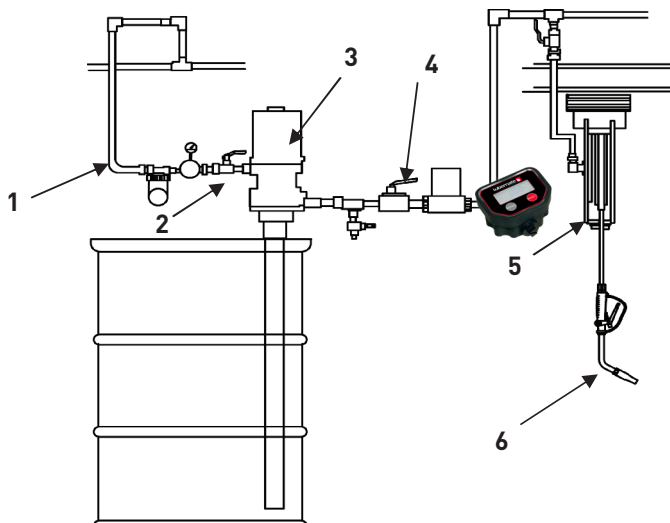

Fig. 2
- Pump: Use a ground wire and clamp as the Fig.2. Get rid of the grounding screw, put the end of the grounding wire into the grounding hole. Lock the bolt to the pump safety.